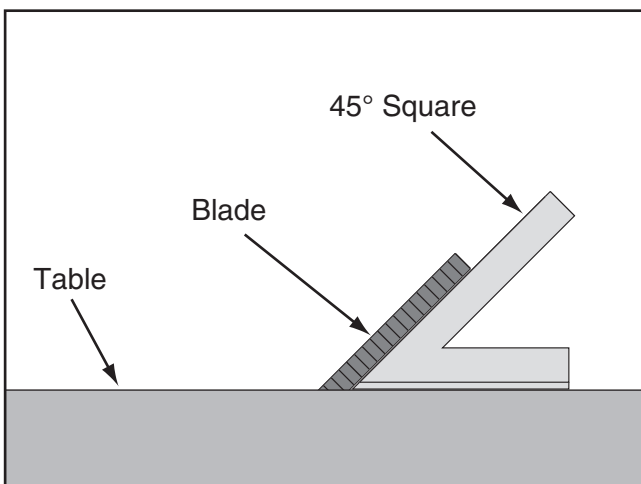

Figure 117. Checking blade at 45°.
3. Place a 45° square against the table and blade so it contacts the blade evenly from bottom to top, as shown in **Figure 117**. Make sure a blade tooth does not obstruct the placement of the square.